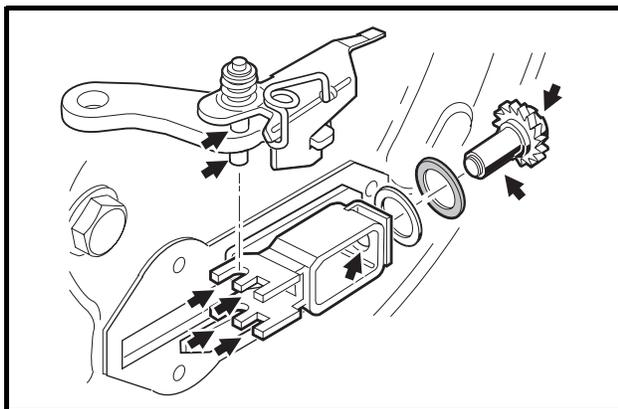

Figure 6-10 Lubricate Adjuster
6. Use a small brush to carefully apply a light coat of white lithium NLGI #2 grease (Dow Corning BR2-Plus or equivalent) to the brake adjuster assembly, adjuster wheel shoe slots, and the shaft of the adjuster wheel as shown (Figure 6-10, Page 6-4). See preceding WARNING.
7. Install the adjuster wheel and two washers into the adjuster assembly (Figure 6-10, Page 6-4).